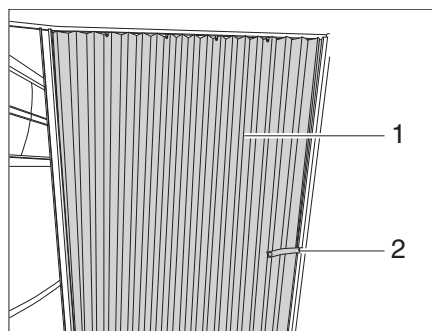

Fig. 81 Folding door
- Release the securing strap (Fig. 81,2).
- Pull the folding door (Fig. 81,1) into the closing position.
- Push the folding door (Fig. 81,1) into the open position.
- Secure the folding door with the securing strap (Fig. 81,2).